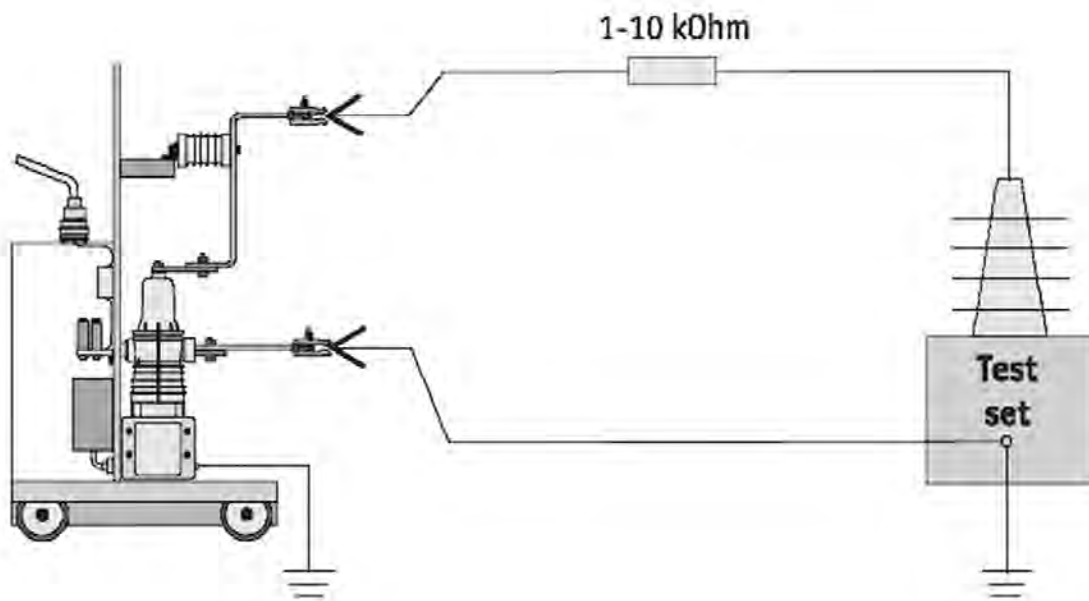

Figure 80
5) To apply test voltage single-core short cables should be used. Application of high voltage coaxial cables is strictly prohibited. To coordinate the surge impedance between the test set and ISM extra resistor as shown in the Figure 80 shall be used.
4) To apply test voltage the single-core short cables should be used. Application of high voltage coaxial cables is strictly prohibited. To coordinate the surge impedance between the test set and ISM extra resistor as shown in Figure 80 shall be used.